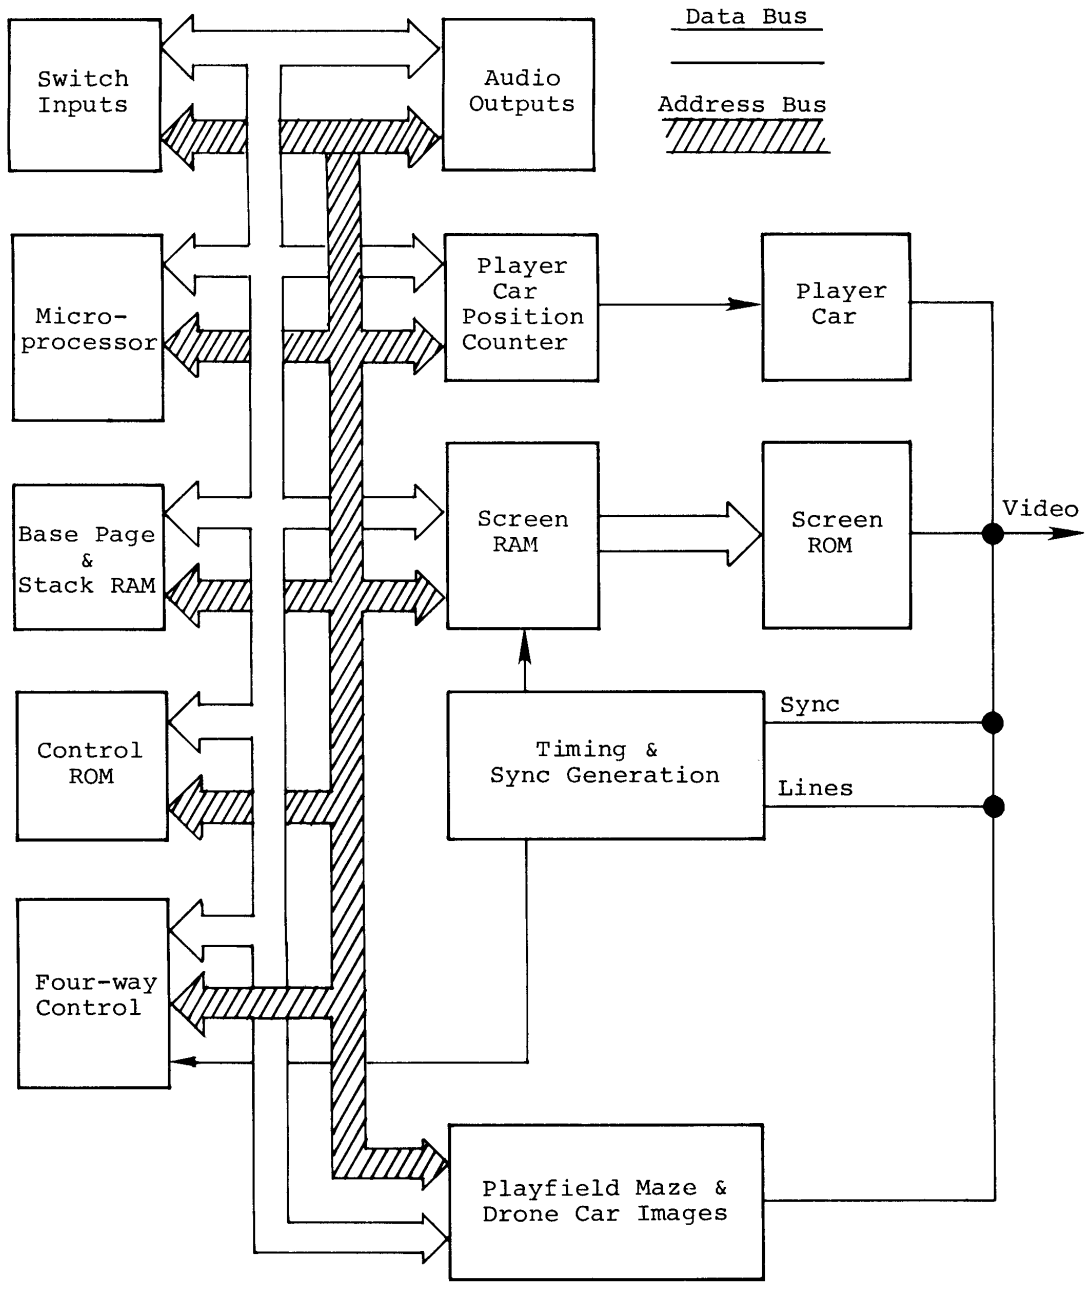

Figure 8: Logic Board Block Diagram
A. Logic Description and Operation (see Figure 8)
processor never addresses screen ROM directly (see Figure 8).